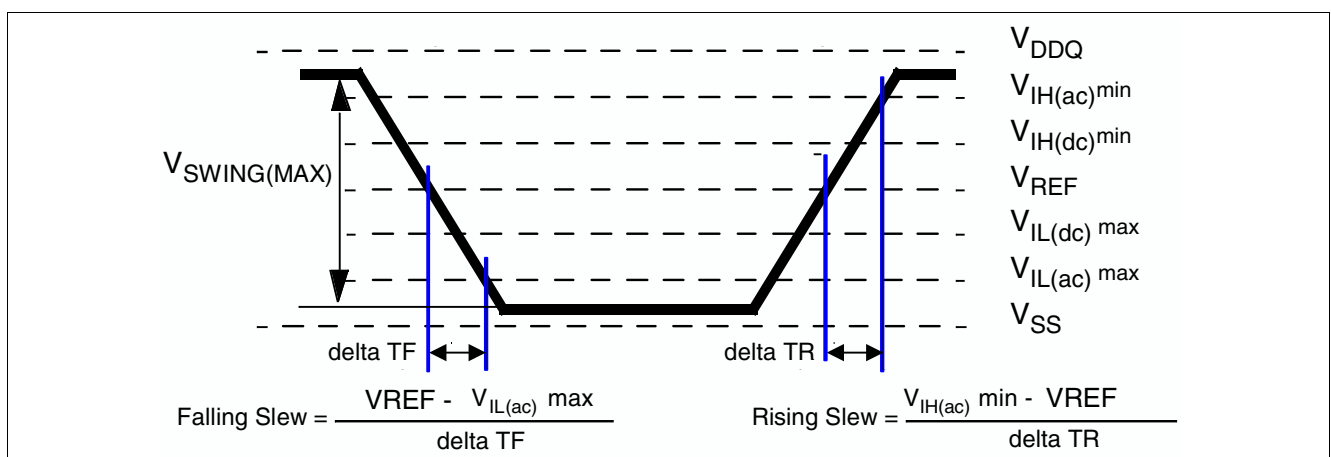

Figure 60 Single-ended AC Input Test Conditions Diagram
- 2) The input signal minimum Slew Rate is to be maintained over the range from $V_{IH(ac),MIN}$ to V_{REF} for rising edges and the range from V_{REF} to $V_{IL(ac),MAX}$ for falling edges as shown in **Figure 60**